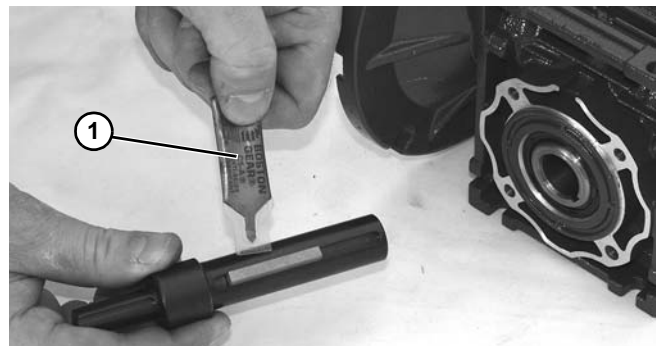

Figure 25
11. Apply anti-seize (**Figure 25, item 1**) to shaft.